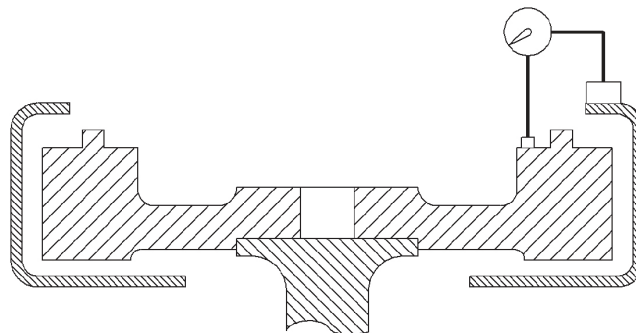

Figure 7. Checking Flywheel Face Run
5. Bolt the dial indicator or gauge to the engine flywheel housing so that the indicator is perpendicular to the engine flywheel, and the indicator tip is riding on the inner face of the flywheel. Rotate the flywheel. The variation of the face runout of the surface to which the driving ring is bolted should not exceed 0.013 mm (0.0005 in) per inch of diameter. See Figure 7.